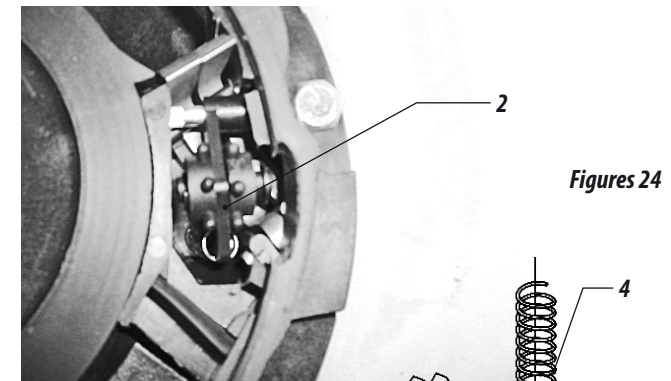

Figures 23
- The seed distributor comes factory fitted with trigger two stars in metering discs double row of holes (2).
- The single row of discs (3) uses a star trigger metering (4). To proceed the change see **Figures 23**.